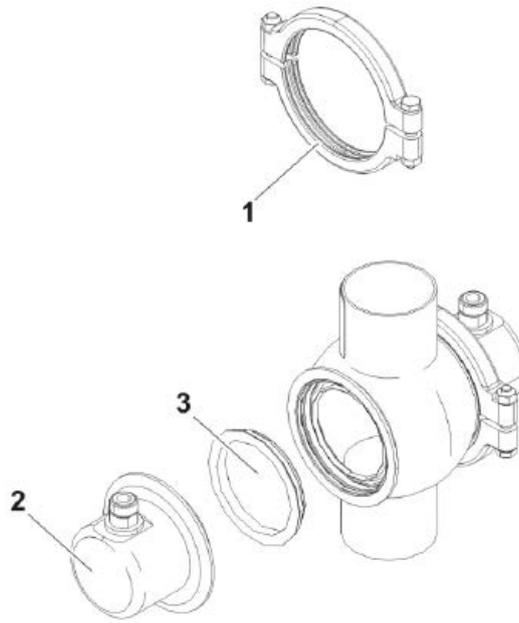

Figure 5-2:
- 3** Attach the new microwave window, the new sealing O-rings and the antenna to the FlowCell with the fixing clamp according to fig. 5-2. HNBR o-ring must be used instead of EPDM o-ring once a fat/grease content of 8 % is exceeded.